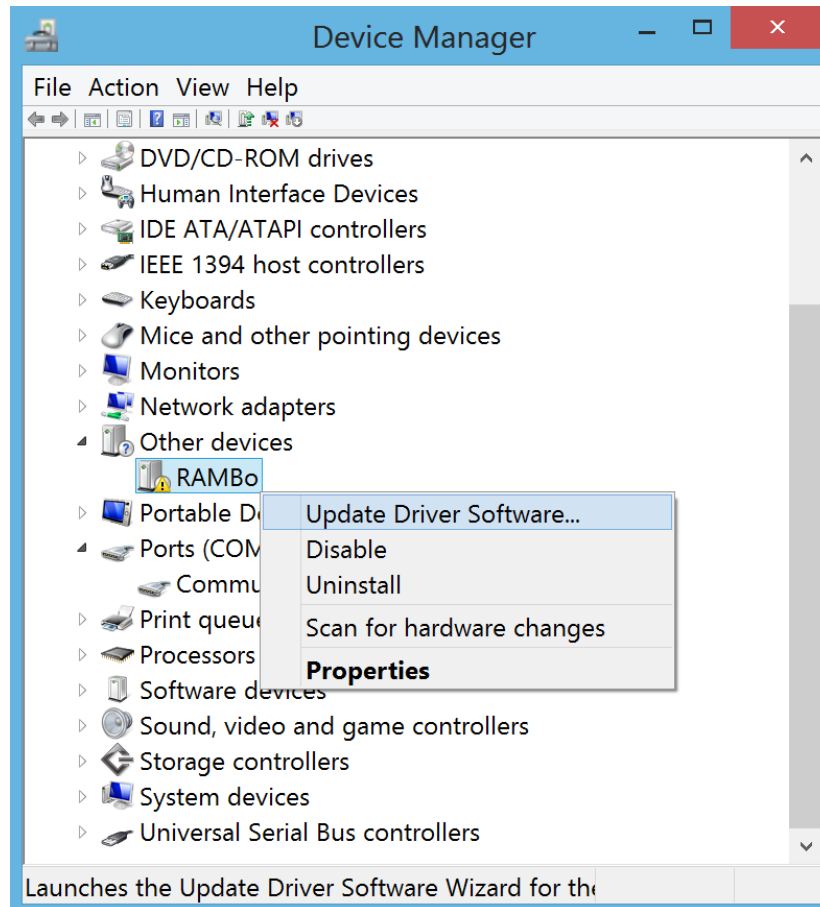

Figure 2.2: Update driver software
4. Open the Device Manager under "Control Panel → System and Security → System". Under "Other devices", you will find the RAMBo device, right click and select "Update Driver Software...". (Figure 2.2)